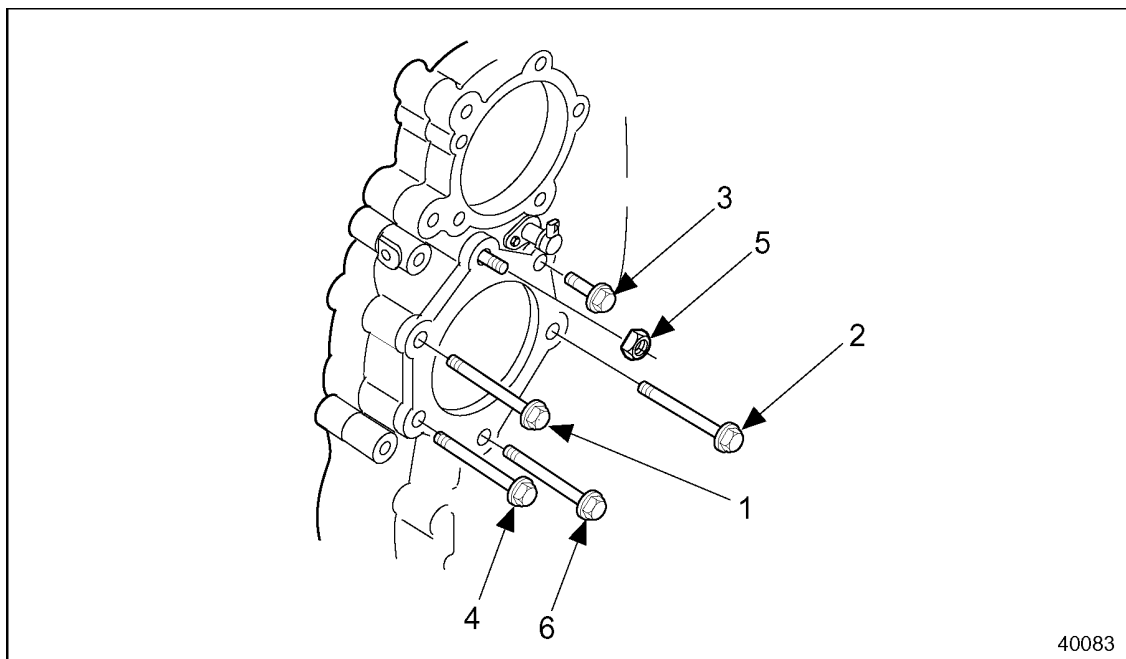

Figure 10-5 Bolt Torque Sequence
5. Torque the five bolts and one nut to 58-73 N·m (43-54 lb·ft) using the required torque pattern. See Figure 10-5. Use compressor wrench, J 35948, to tighten the upper-inside bolt.